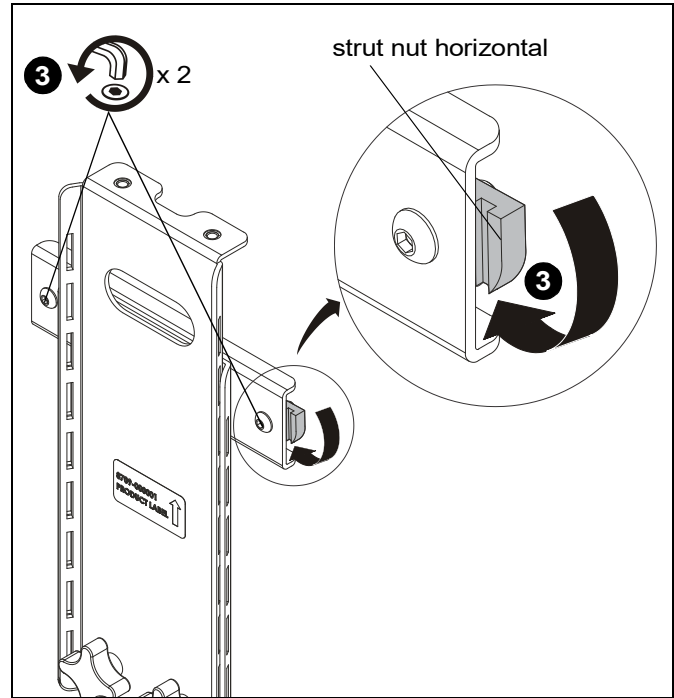

Figure 3
3. Loosen two strut nuts on back of height-adjustable bracket (C) and rotate until they are in a horizontal position. (See Figure 3)